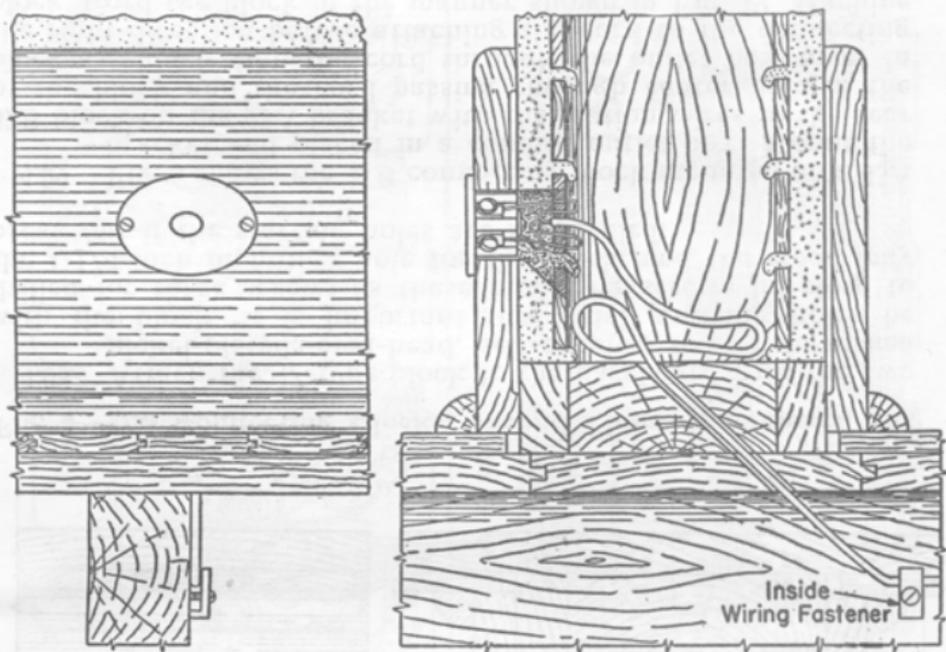

Fig. 4—47B Connecting Block on First Floor or Similar Locations
4.05 Where wire can be fished from the basement to the first floor location, installation of 47-type connecting block, as shown in Fig. 4, is recommended.